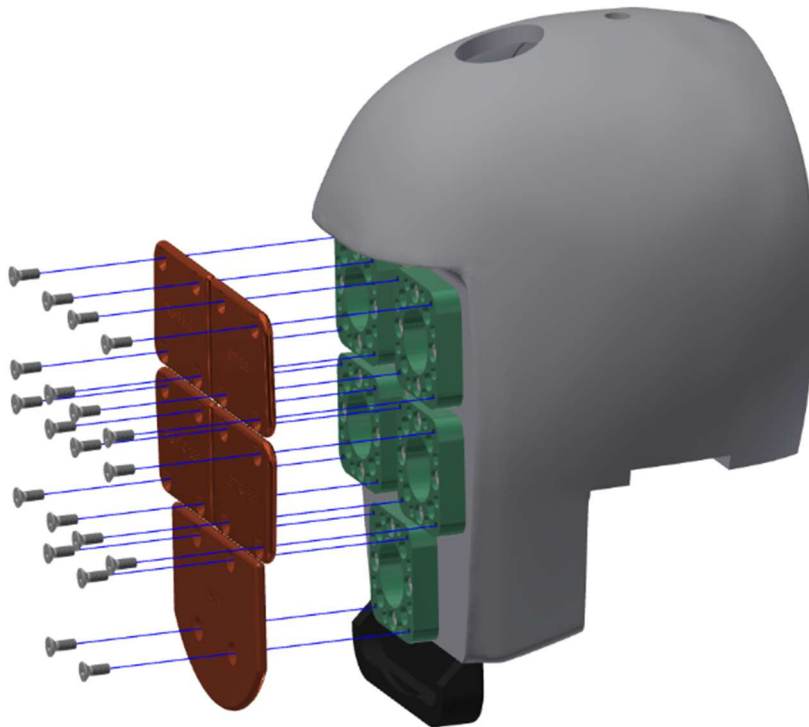

Figure 3-16. Face load cell plates
- 3.2.15 Remove the five face load cell plates (474-1412-1, 474-1414-1, 474-1412-2, 474-1414-2, and 474-1416) by removing four M3 X 0.5 X 8 LG. FHCS per load cell plate (twenty screws total) (Figure 3-16).